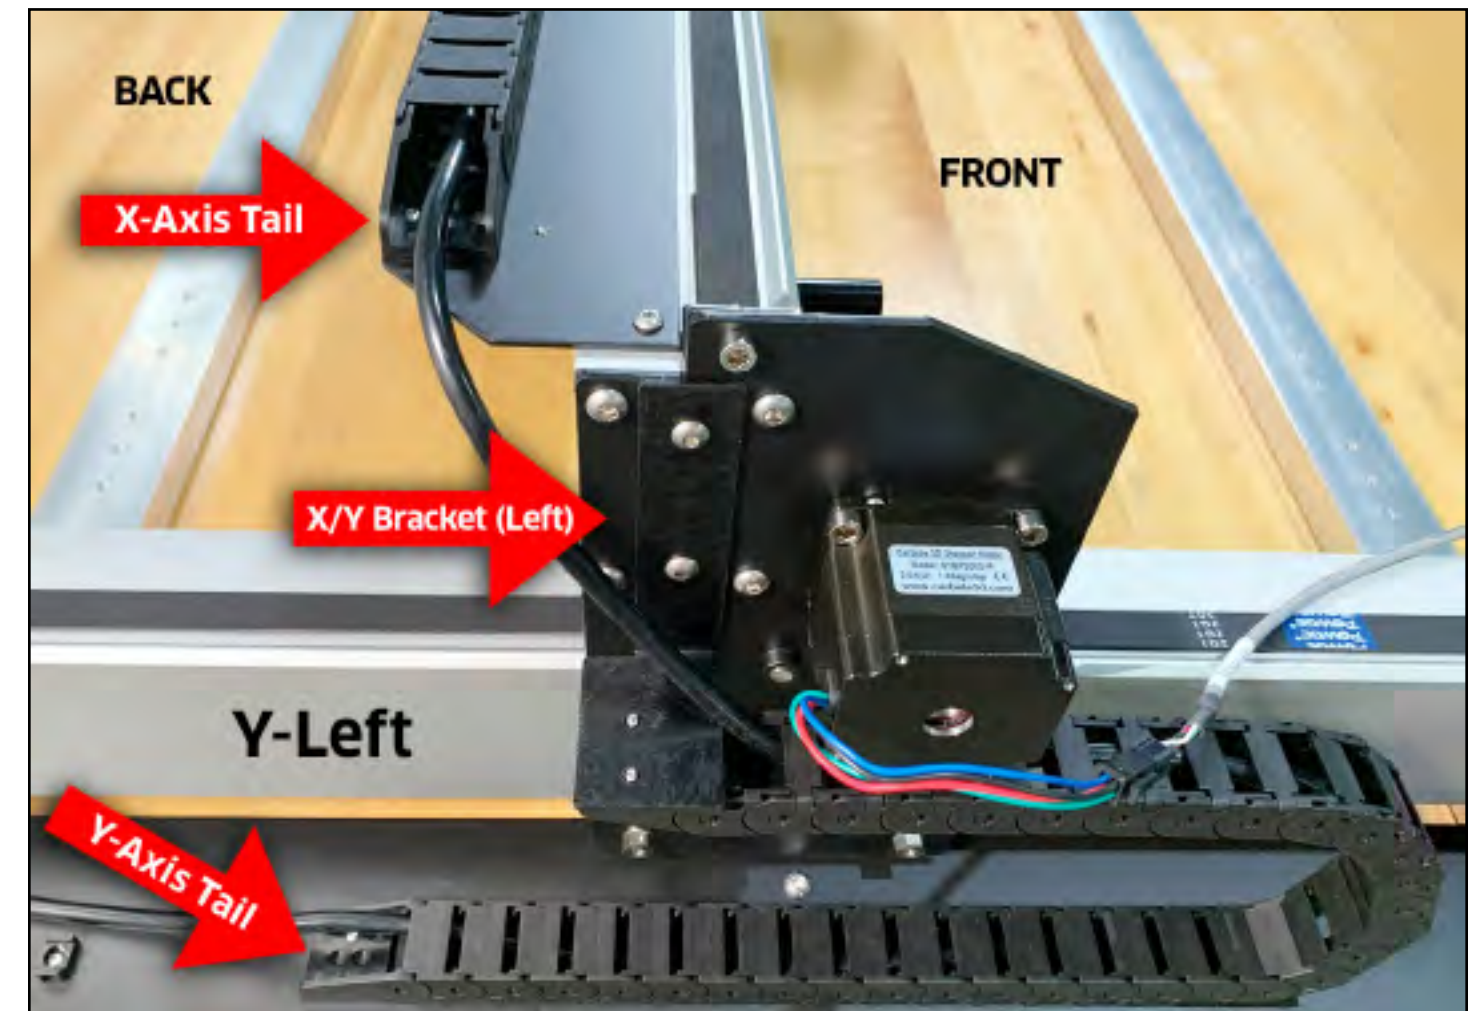

Figure 7-11
1. Position the tail of the Y-Axis drag chain over the two M3 integrated nuts on the Y-Left drag chain support panel. See **Fig. 7-11**.
2. Use a 2mm hex key and the two (2) remaining M3×6mm BHCS to secure the tail to the support panel.